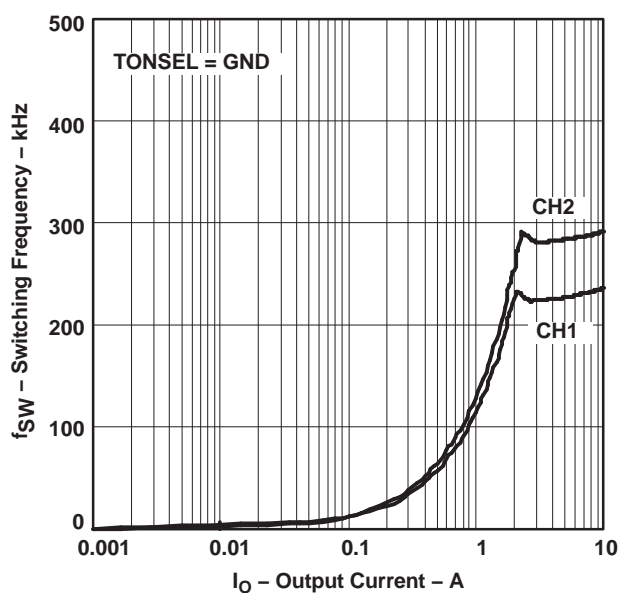
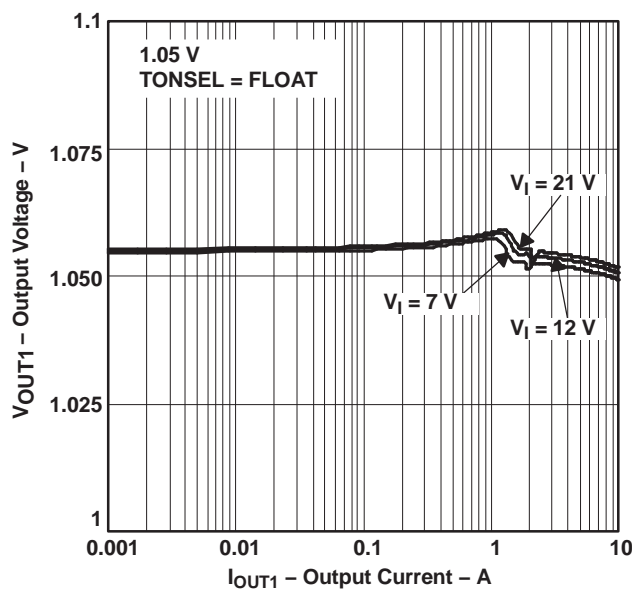

Figure 9. (2)
Figure 12.
(2) The data of Figure 9–Figure 12 are measured from the Typical Application Circuit of Figure 25 and Table 2.